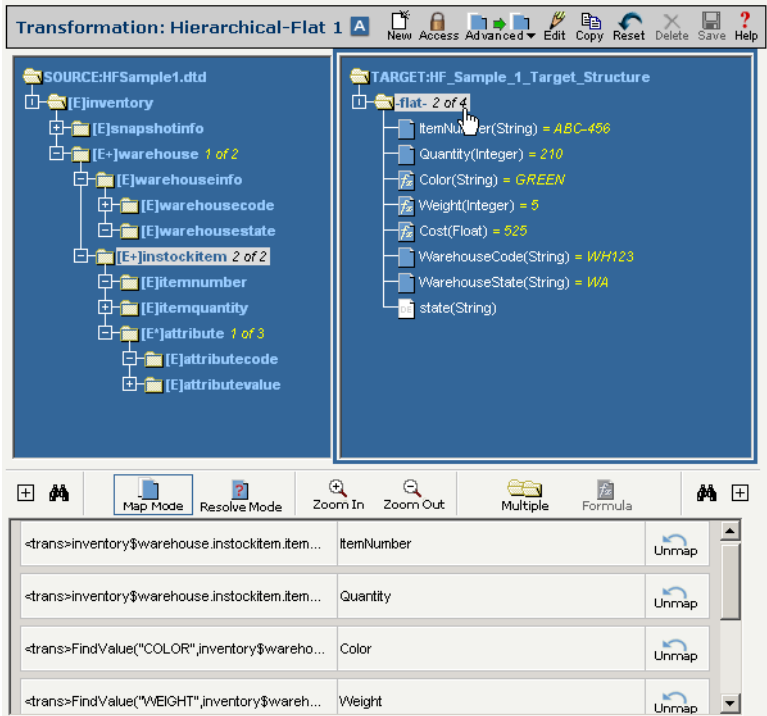

Figure 18-6. Testing the Transformation is done by loading corresponding Target data element values from the Source data and reviewing their results.
- 2 The Source content is transformed according to your Transformation map, and the subsequent Target values are loaded into the **Target** pane. The Target data elements' values are highlighted in yellow, and are placed to the right of their corresponding data elements (see Figure 18-6 below).
- ③ Similar to the **Source** pane, you can toggle through a multi-entry **Target** element's values by clicking the appropriate folder's *1 of N* control. In the example shown below, the folder was clicked once to display the second of four sets of values.